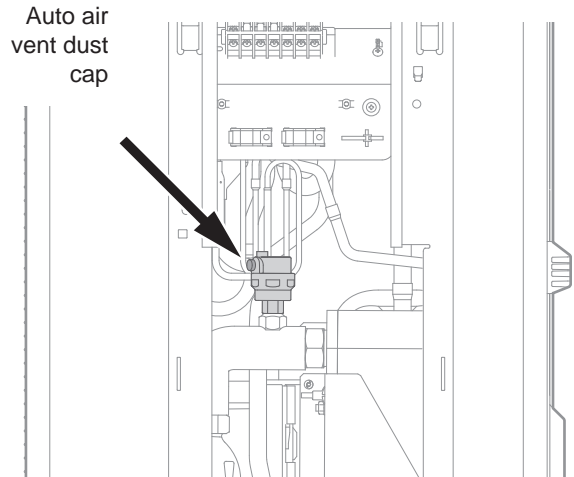

Figure 39. Auto Air Vent Dust Cap
2. Open automatic air vent dust cap. Refer to *Figure 39*.